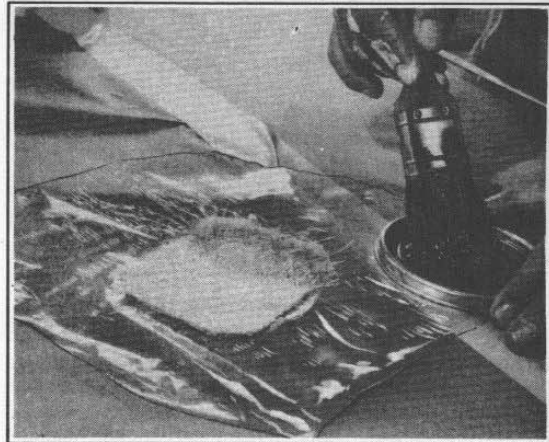

Figure 2-83. Applying Resin to Mat
6. Mix a small amount of pre-accelerated resin and catalyst and daub resin on mat, thoroughly wetting it out. This may be done on a piece of cellophane or wax paper. See Figure 2-83.